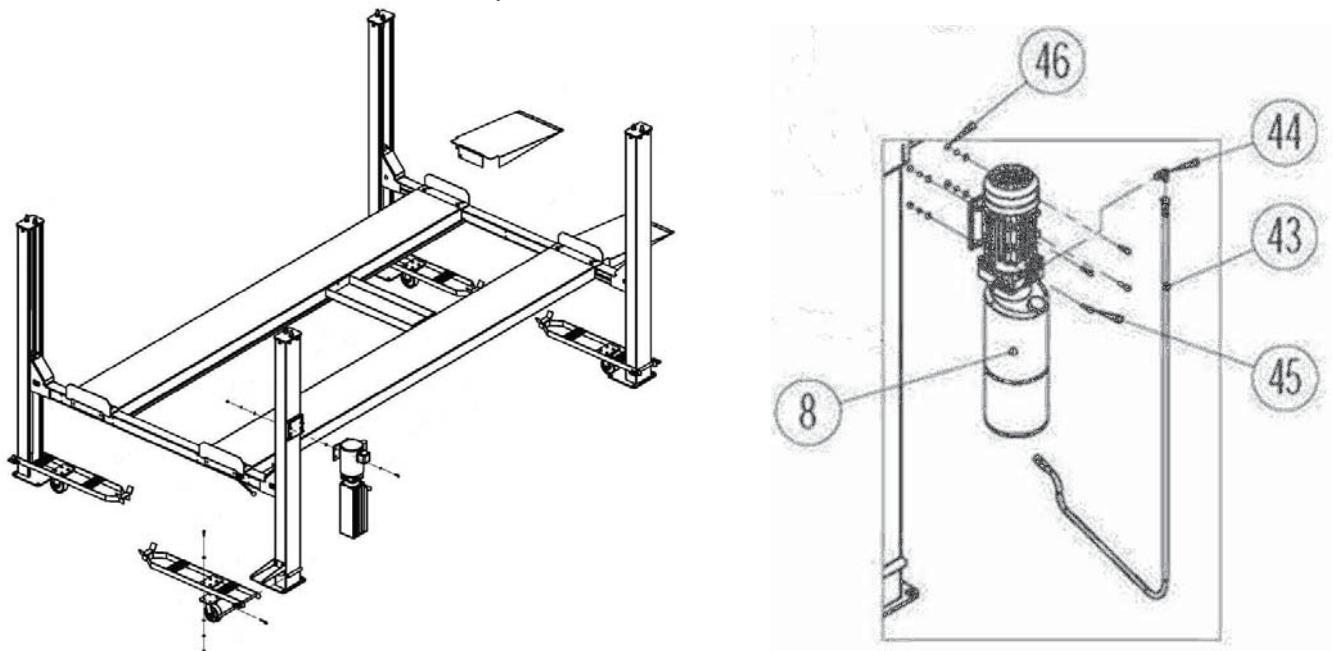

Fig. 9
19. Mount the Power Unit (#8) to the Mainside Column with the attached mounting bracket using the Hardware provided, shown in Fig.9. Once mounted, fill the Power Unit reservoir tank with hydraulic fluid. Now, install the 90 degree Hydraulic Fitting (#44) to the high pressure port on the Power Unit. Connect the electrical power to the Power Unit.
3. Position each of the four Caster assemblies below the Crossbeam rails, as shown on page 6 and on Fig. 9.